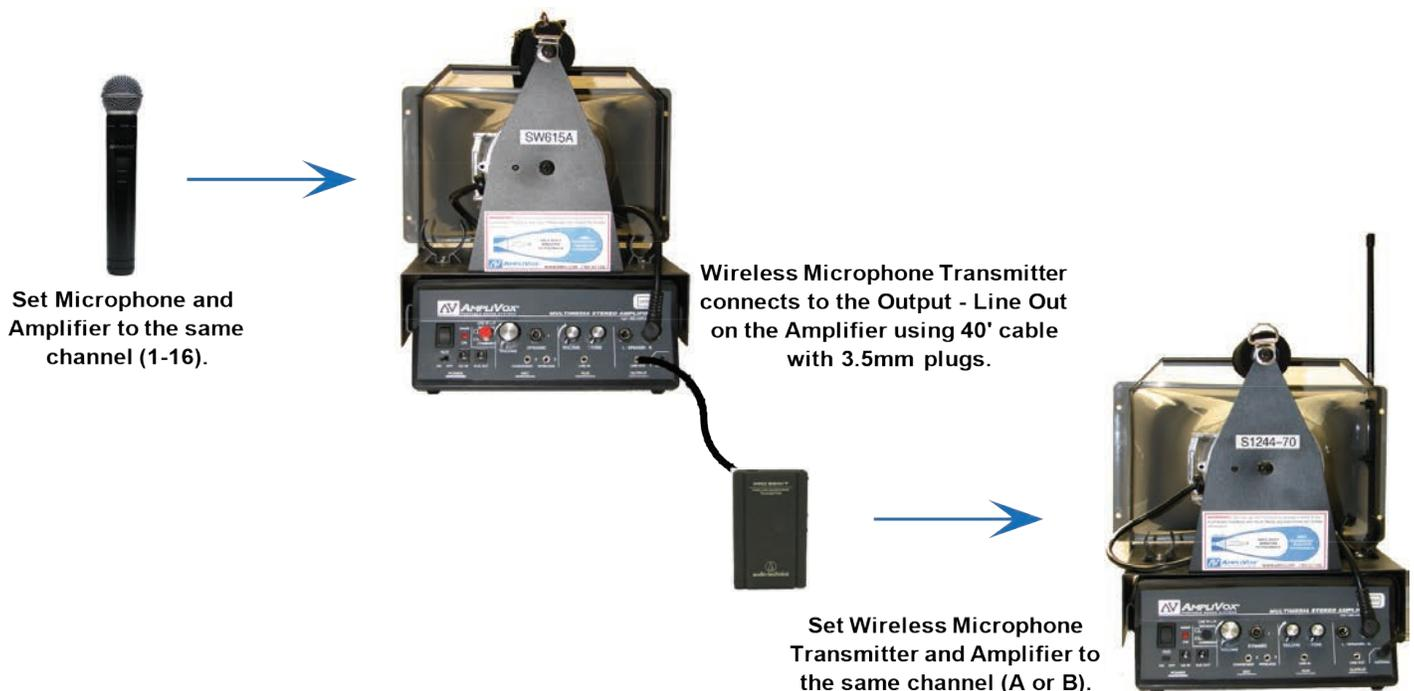

Figure 1:
5. To utilize the S1244-70 (**SECONDARY**) Amplifier, connect the Wireless Microphone Transmitter to the “LINE OUT” jack on the SW615A Amplifier using the 40' cable with 3.5mm plugs. Make sure the Wireless Transmitter and S1244-70 Amplifier Internal Wireless Receiver are set to the same channel (**A or B**). Turn on the S1244-70 Amplifier and adjust the Volume on the left side. *(See Figure 1)*